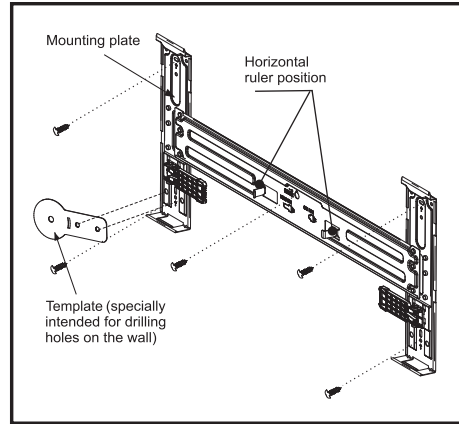

Fig. 1
- 5) Align the 2 holes of the template with the 2 holes of the mounting plate as shown in Fig. 1.
- 1) Decide the position of hole for piping according to the location of mounting plate (see the position and size of the template as shown in Fig. 1).
**Note:** If you have a hole on the wall, you need to align the round part of the paper board with the hole on the wall. Then align the 2 holes of the mounting plate with the 2 holes of the paper board (shown in fig. 1) to decide the installing location for the mounting plate.